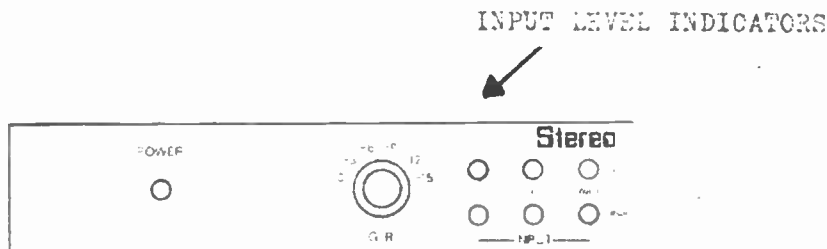

FIGURE 3-6 INPUT LEVEL INDICATORS
3.3.2 Input Level Indicators (Figure 3-6)